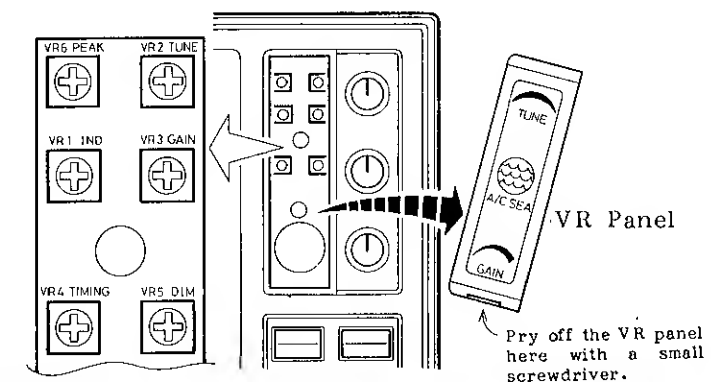

Fig.6-11 Location of Preset Potentiometers
1. Press the **POWER/OFF** touchpad on the display unit, and the control panel will light up. In approximately 2 minutes and 30 seconds, the message "ST-BY" will appear at lower center of the screen. While this warmup is in process, pry off the VR panel on the front panel of the display unit. See Fig.6-11. This will expose the preset adjustments. Push in the front panel **TUNE** control and release the control to bring it out. Set the control to 12 o'clock, the **GAIN** control at 2 o'clock, and the **A/C SEA** control at fully counterclockwise.
3. Bring up the **GAIN** control until a small amount of noise appears on the screen. At this point, unless the tuning just happens to be at the optimum point, *slowly* adjust the coarse "TUNE" control accessible through the VR panel, watching the screen for radar targets. (See Fig.6-11.) You must patiently adjust this coarse-tuning control in very small increments, allowing the sweep to go around completely in order to observe the effect of a single small change in its setting. When you are finished optimizing the coarse tuning control behind the VR panel, verify that the fine **TUNE** control on the front panel peaks up for maximum radar echoes at 12 o'clock, or at least close to that point.
2. Set VR3 at the position where a little background noise appears on the screen. See Fig.6-11 for the location of VR3.
2. Turn potentiometer VR2 ("TUNE", Fig.6-11), located behind the VR panel of the display unit, fully CW and then slowly turn it CCW until the maximum number of tuning bars are lit.
3. Adjust potentiometer VR6 ("PEAK", Fig.6-11), for the maximum number of tuning bars.
4. If all the tuning bars light up, turn potentiometer VR1 ("IND", Fig.6-11) CCW so that about four bars light up, and then adjust VR6 ("PEAK") as in step 3.
The illumination of the touchpad panel can be adjusted to suit your needs, by adjusting the "DIM" potentiometer (VR5) located behind the VR panel of the display unit. See Fig.6-11 for the location of VR5.